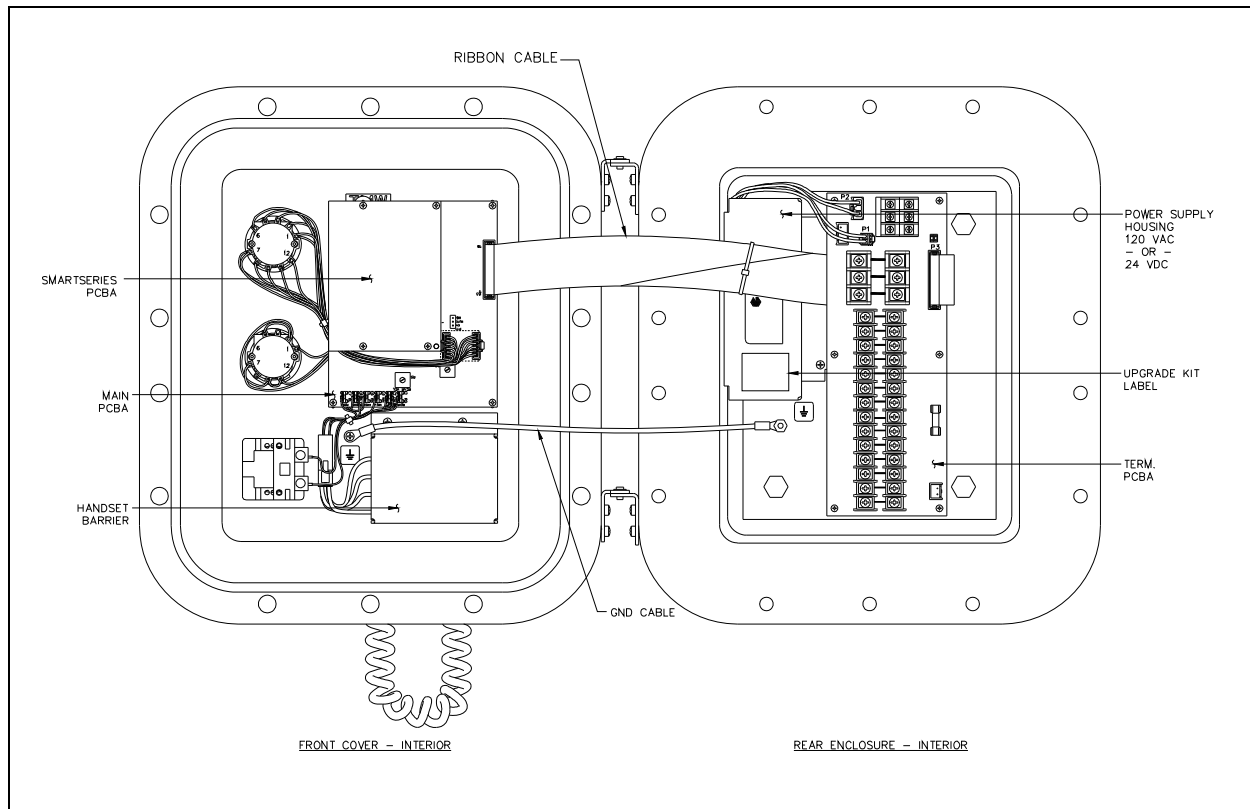

Figure 3.
8. Place the upgrade kit label on the power supply housing as shown in Figure 3.
9. Plug the ribbon cable back into P3 of the Main PCBA. Refer to Figure 3 for the completed assembly configuration.